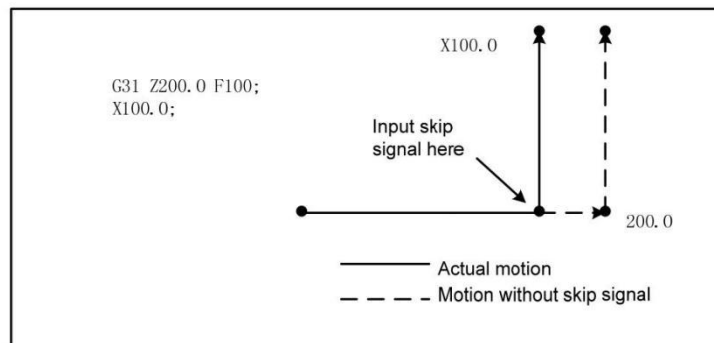

Fig. 4-2-9-2
3. The next block of G31 is the absolute coordinate programming of two axes shown in Fig4-2-9-3